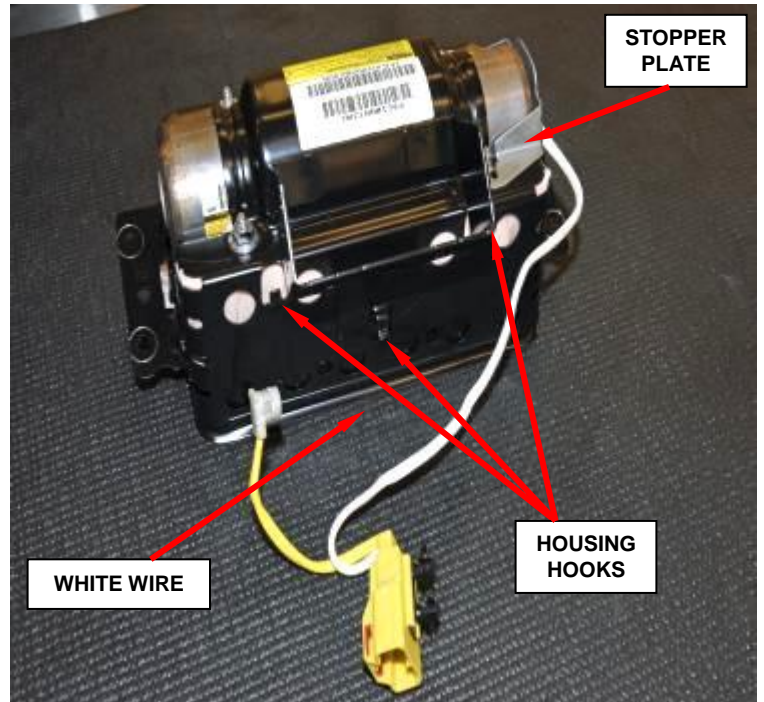

Figure 71 – White Wire Harness
- d. Release the white wire from the three housing hooks (Figure 71).
- f. Remove and save stopper plate from housing (Figures 71 and 72).